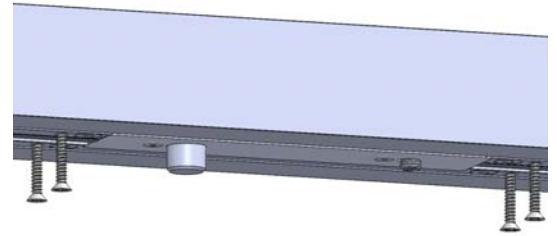

Figure 6:
4. Verify location / dimension Sub-Sillpan opening (see Figure 6 & Table I).